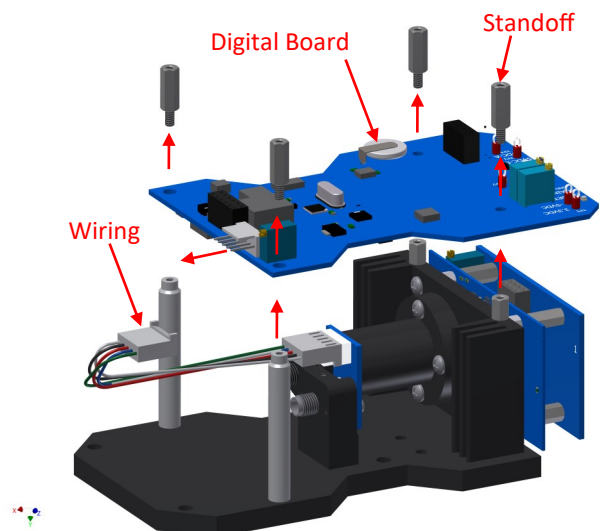

Figure 1.3.3
3. Disconnect the LED wiring assembly from the digital board. Remove the four (4) 4-40 x 1/2" M/F standoffs and uninstall the digital board. See figure 1.3.3